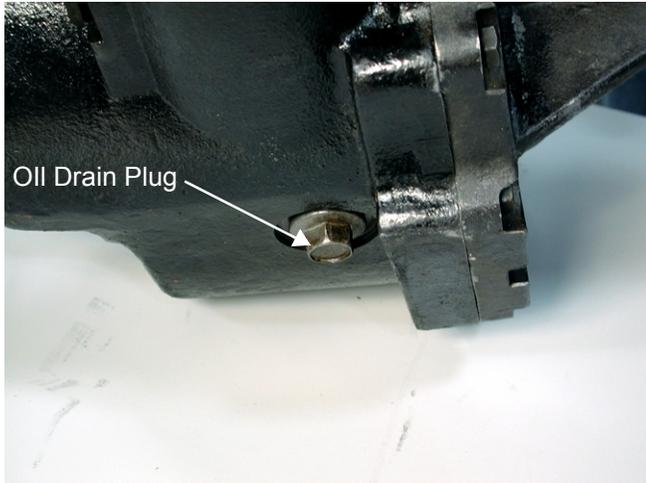

Figure 1
1. Remove the oil drain plug and set it aside using a 16mm socket. See Figure 1.